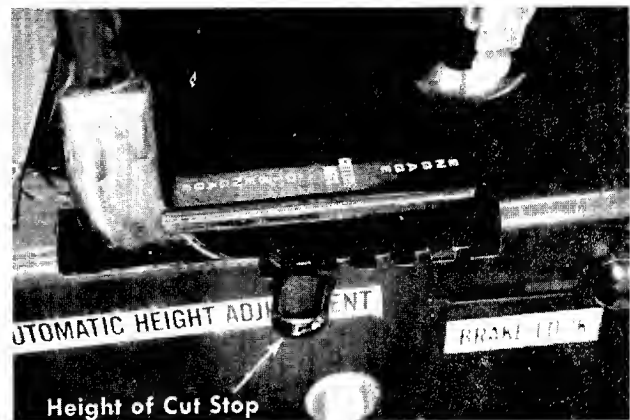
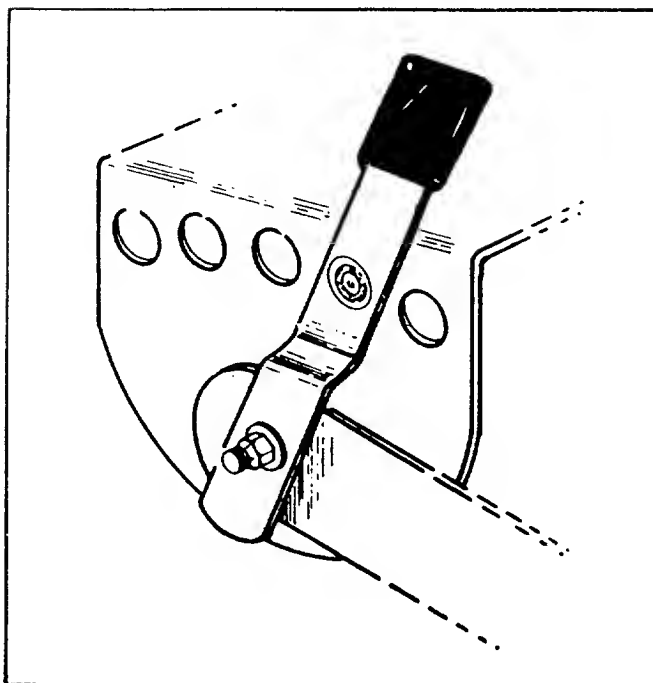

FIGURE 9.
FIGURE 10.
**Height of Cut Stop.** See figure 9. Lift the stop and set it at the desired cutting height.
**Wheel Height Adjuster.** See figure 10. Move the lever towards the wheel and set it in the desired cutting height.
To set the cutting deck in the full float position, set the wheel height adjusters in the desired cutting height as indicated in figure 10. Set height of cut stop in the 1½ position. See figure 9.